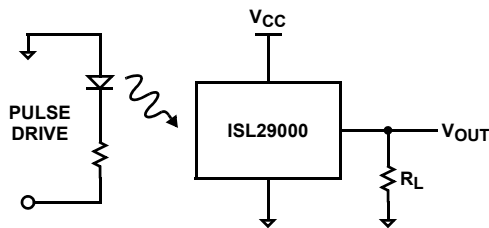

FIGURE 1. RISE/FALL TIME MEASUREMENT
1. Switching time measurement is based on Figures 1 and 2.
For some applications, a load resistor is added between the output and the ground as shown in Figure 1. The output voltage can be expressed in Equation 2: